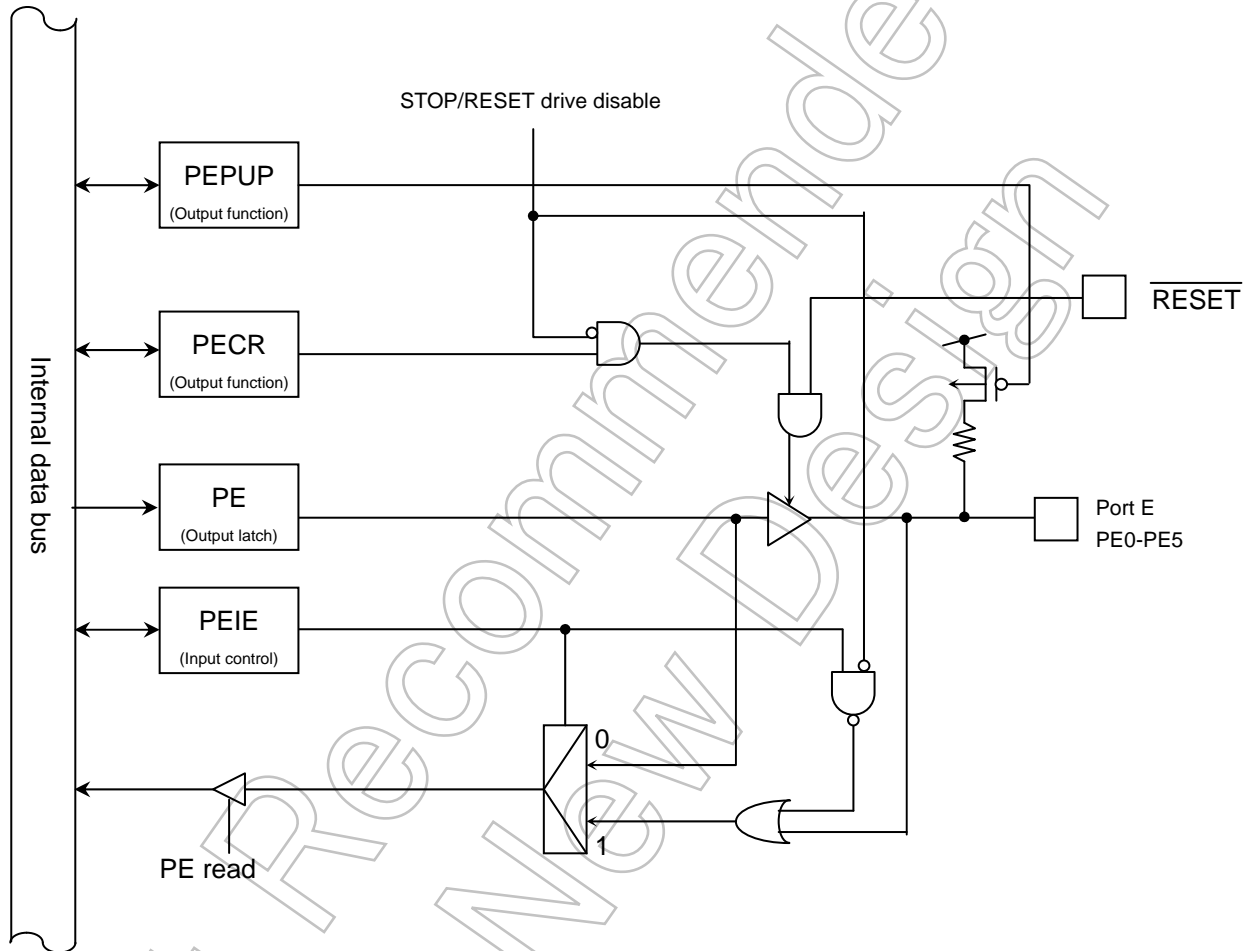

Fig. 7-43 Port E (PE0-PE5)
*Fig. 7-43 does not illustrate debug function.